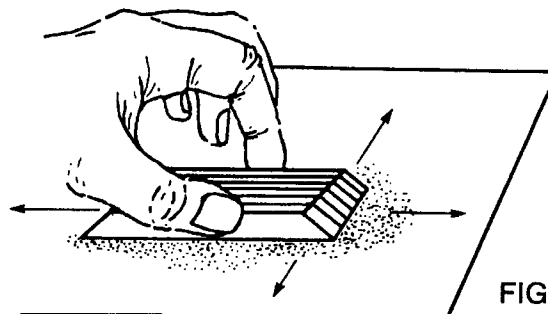

FIG. 8
- C Stack all 6 of the Pylon Pieces together, and "jog" them into place to see if they are all the same size and shape. There will probably be slight differences in each of the pieces. These differences should be eliminated by first laying a sheet of fine sandpaper on a table, and then grasping the "stack" of Pylon Pieces very tightly (so that they won't move with respect to each other) and carefully sanding each "face" of the stack (Fig. 8).